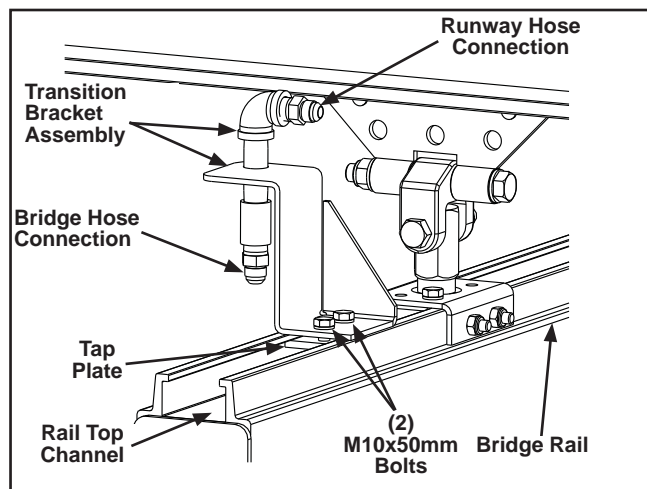

Figure 3-110
- Step 1. Loosen M10 x 50 mm HHCS on tap plate; slide transition bracket on to bridge rail bracket channel. Position bracket approximately six (6) inches (152 mm) from end truck. See Figure 3-110.
- Step 3. Install female swivel push on fitting with Oetiker clamp to hose end. Attach trailing end of runway rail hose into transition bracket assembly. See Figure 3-110.